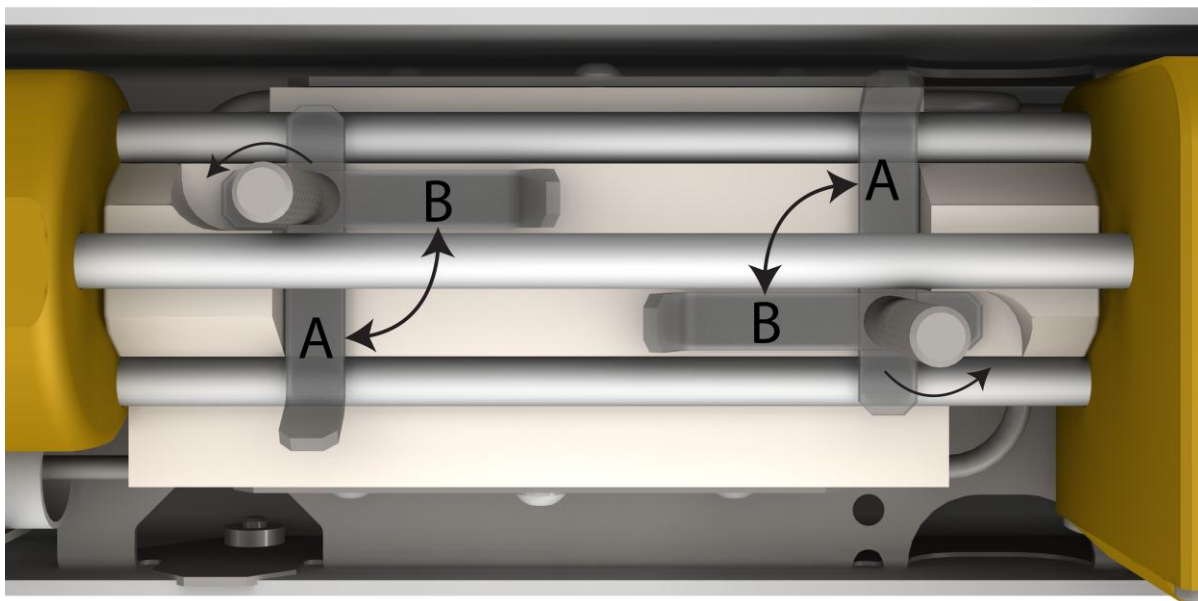

Figure 9-3. By loosening the thumbscrews above the sample cell, the latches may be spun from position A to position B, thus freeing the struts of the analyzer.
- c. Loosen the thumbscrew on the cable clamp at the back of the analyzer to release the cable, and loosen the two long thumbscrews found above the sample cell. Rotate the latches so that the struts on the analyzer are free to move upwards. See Figure 9-3.